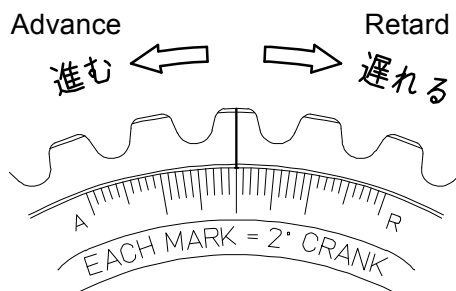

Fig.6 Scale of the Outer Pulley
- Loosen the angle adjusting bolt, turn the outer pulley toward A (Advance); the valve timing is advanced. Turn it toward R (Retard); the timing is retarded. (See Fig.6)